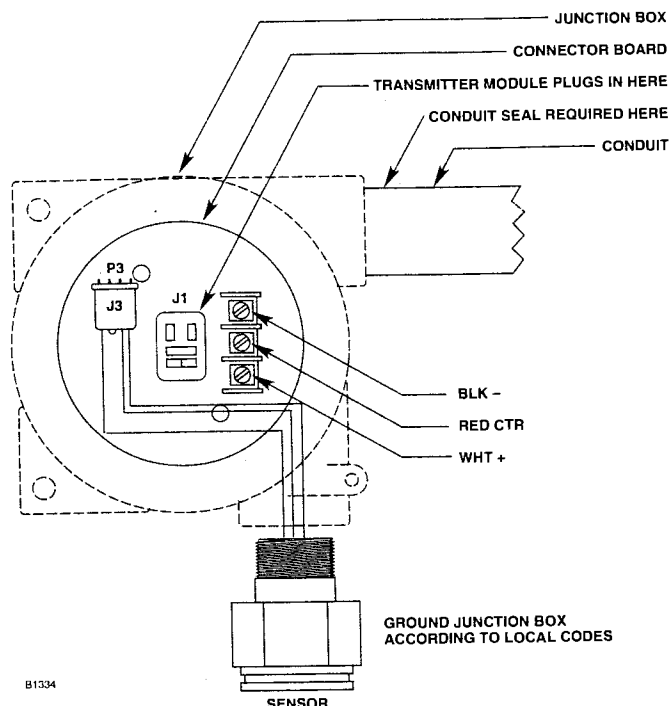

Figure 6—Transmitter Wiring
5. Attach the sensor to the junction box. The sensor should be tight to ensure an explosion-proof installation, however, do **not** overtighten. Attach the wiring plug at the appropriate terminal location. (See Figure 6.)